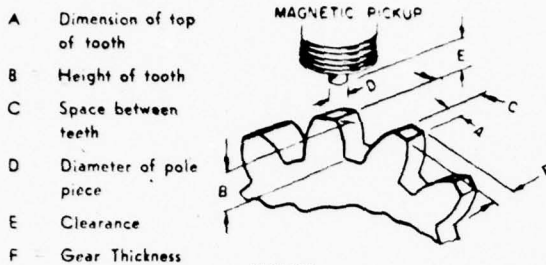

FIGURE 1
The optimum tooth size and spacing for the maximum output of magnetic pickups is shown in Figure 1.
In Figure 1, the optimum dimension of (A), (B), and (C), are given as they relate to (D) the diameter of the pole piece of the magnetic pickup being used. The optimum relationship for maximum output is as follows:
- (A) equal to or greater than (D)
- (B) equal to or greater than (C)
- (C) equal to or greater than three times (D)
- (E) as close as possible; typically .005" or less
- (F) equal to or greater than (D)
The above configuration is not available in a stock gear but it is seldom necessary to have the maximum output. Very close to the maximum output may be generated by conventional stock gears if the tooth width "A", Figure 1, is equal to or greater than the pickup pole piece diameter "D". Gear thickness is not critical as long as it is equal to or greater than the pole piece diameter. For ease of alignment, the thickness should be 2 or 3 times the pole piece diameter.
The Mini-Tach models plug in to the Electro Model 58390 socket, which is held to the panel by two screws. The socket provides screw terminals for connecting wiring. Details are shown in Figure 1. Mounting orientation is unimportant, but the top of the module should be easily accessible if adjustments will be made when installed.